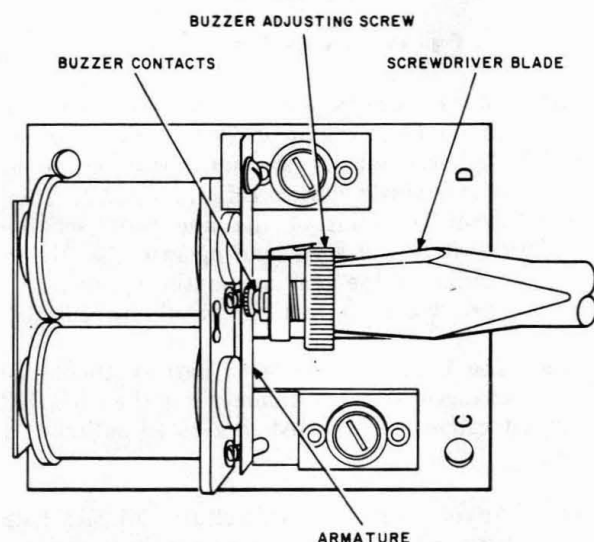

Fig. 19—KS-14485 L1 Buzzer
**10.03** Insert a screwdriver having a 1/4-inch blade in the hole on the front of the case and engage it in the slot on the buzzer adjusting screw as illustrated in Fig. 19.